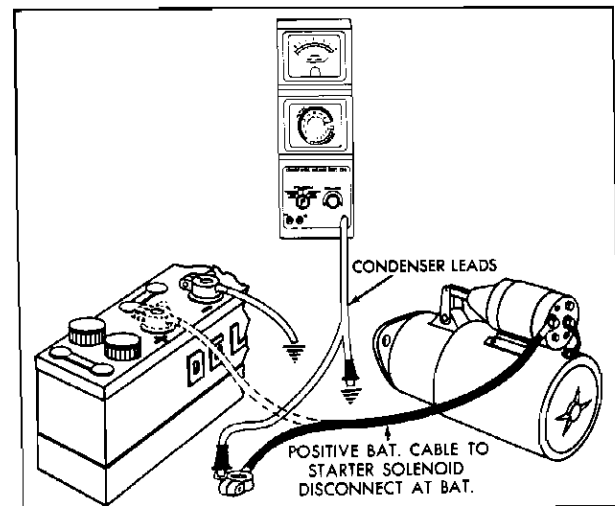

Fig. 11-15 Primary Wiring Test
6. Connect condenser leads as shown in Fig. 11-15. Meter should read in Blue Meg band if insulation in primary circuit is normal.